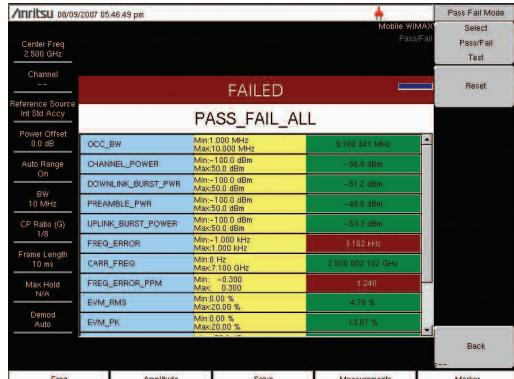

Figure 12. Pass/Fail mode example screen.
4. Press the Pass/Fail Mode soft key. The red dot on the soft key indicates it is selected (Figure 12).